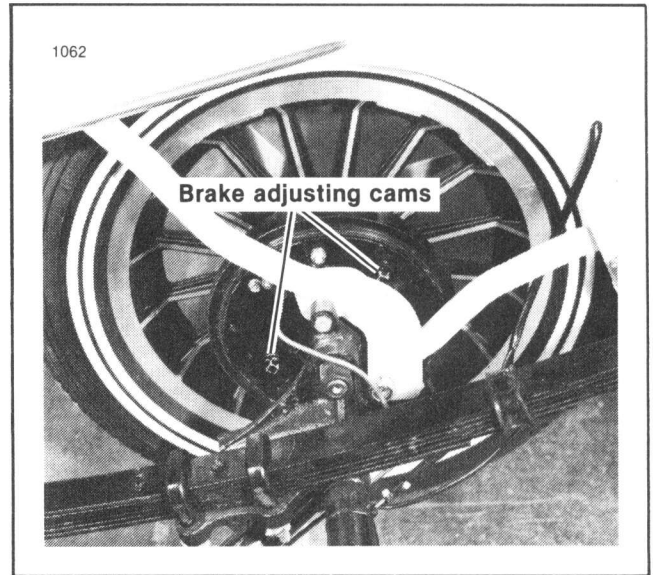

Figure 3-1. Brake Shoe Adjustment
2. See Figure 3-1. The adjusting cams are located on the backside of brake drum. Turn the front brake shoe adjusting cam counter clockwise until brake lining surface contacts the drum with noticeable drag.